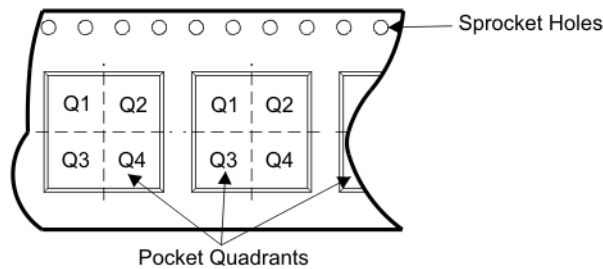

**Figure 40. GND system of DC/DC converter using the TPS51125**
- TPS51125 has only one GND pin and special care of GND trace design makes operation stable, especially when both channels operate. Group GND terminals of output voltage divider of both channels and the VREF capacitor as close as possible, connect them to an inner GND plane with PowerPad, overcurrent setting resistor, EN0 pull-down resistor and EN0 bypass capacitor as shown in the thin GND line of Figure 40. This trace is named Signal Ground (SGND). Group ground terminals of VIN capacitor(s), VOUT capacitor(s) and source of low-side MOSFETs as close as possible, and connect them to another inner GND plane with GND pin of the device, GND terminal of VREG3 and VREG5 capacitors as shown in the bold GND line of Figure 40. This trace is named Power Ground (PGND). SGND and 15-V charge-pump circuit should be connected to PGND at the middle point between ground terminal of VOUT capacitors.